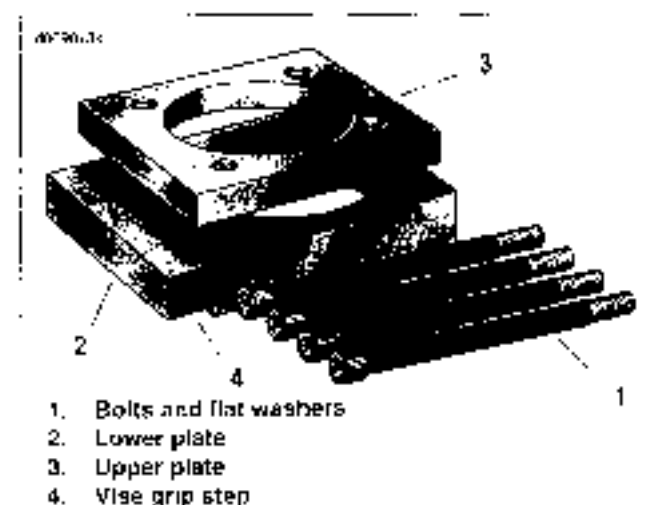

Figure 3-110. Cylinder Torque Plates
6. See Figure 3-110. Check the machined surfaces for flatness using a feeler gauge and CYLINDER TORQUE PLATES (Part No. HD-42324-A) as follows:
- a. Lay gasket side of the upper torque plate (3) (without vise grip step) flat against the head gasket surface of the cylinder.
- e. Now turn the cylinder upside down and lay the seal side of the lower torque plate (2) (with vise grip step) flat against the O-ring seal surface. Repeat steps 6.b. and 6.c. above.